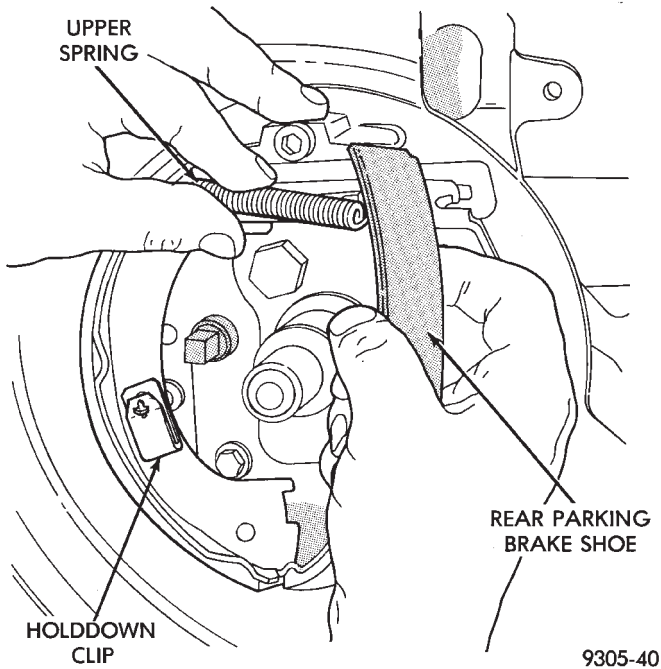

Fig. 4 Removing Shoe and Upper Spring
- (10) Pull rear parking brake shoe assembly, away from anchor. Then remove rear parking brake shoe and upper spring (Fig. 4).